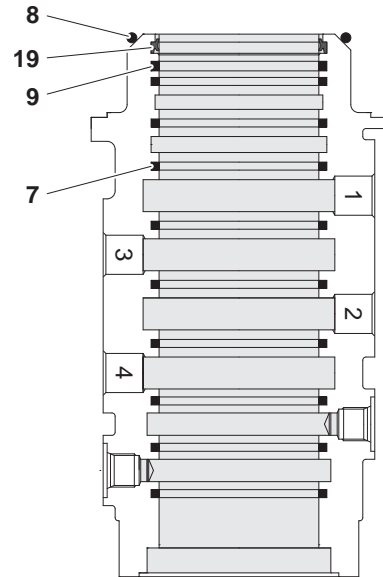

Figure 22
1. Assemble the slipper seal (7, Figure 22) (9 ea), O-ring (8) (1 ea), O-ring (9) (1 ea) and dust seal (19) (1 ea) into the hub.